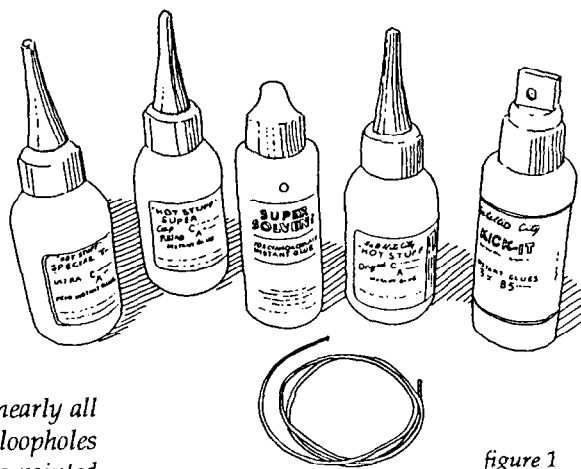

figure 1
This glue comes in different viscosities from very thin to syrupy. The brand I prefer is called "Hot Stuff" and is distributed by Satellite City, P.O. Box 836, Simi, CA 93062; (805) 522-0062. See Figure 1.